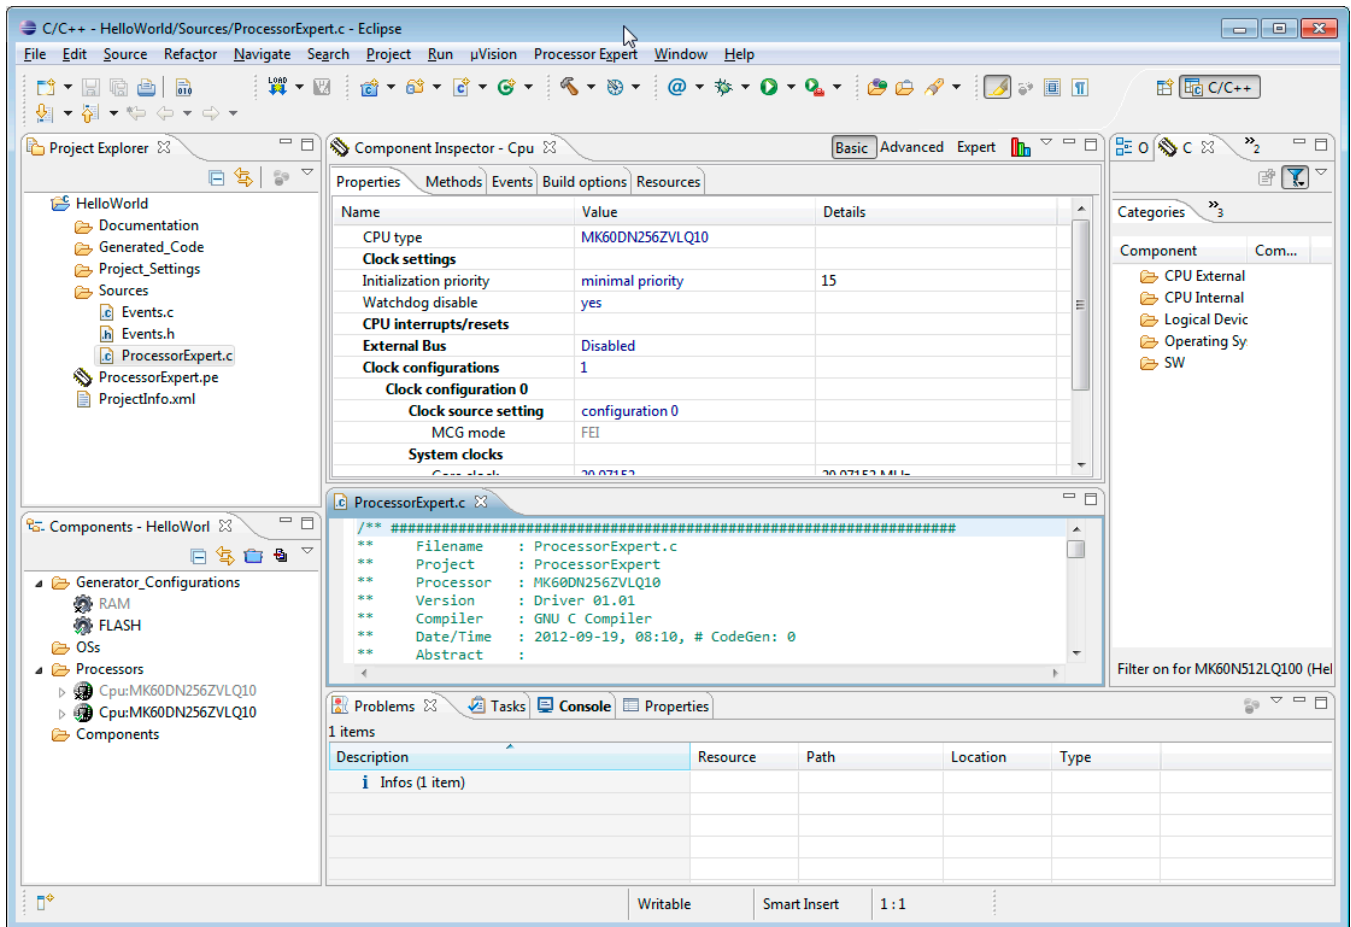

Figure 5. Processor Expert Perspective
9. Click **Finish** to create Processor Expert project. The Processor Expert perspective is displayed as shown in Figure 5.